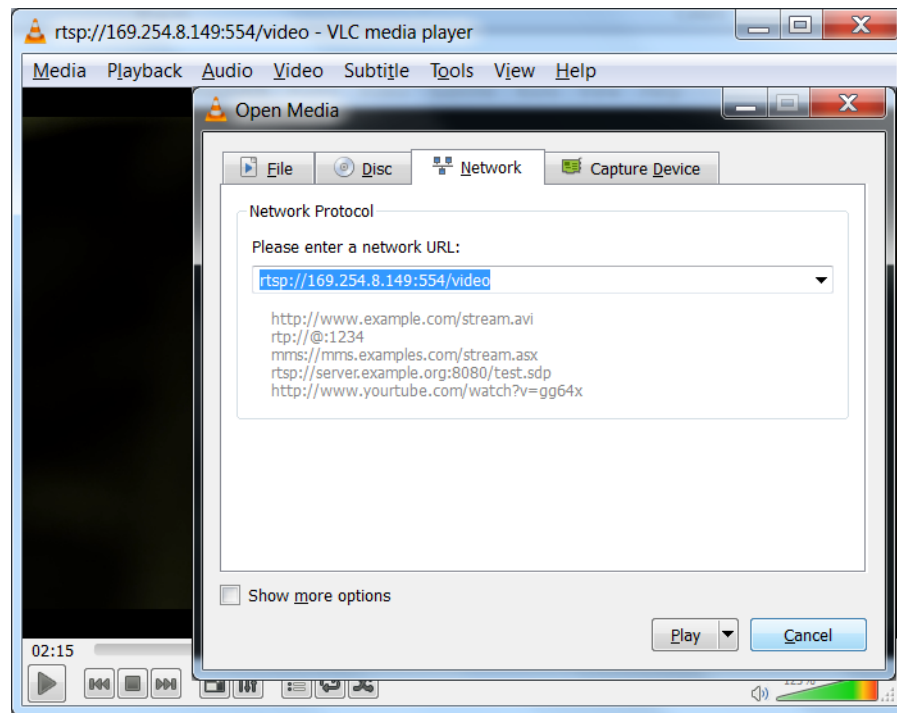

Figure 6-3 Streaming with VLC
2. In the **Open Media** screen, enter the URL as shown above. Refer to Figure 6-3 for a specific example of the URL.